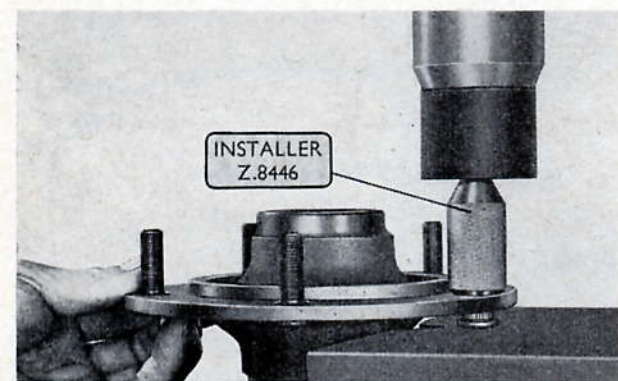

Fig. K.10. Pressing in a new hub bolt
- (c) Engage the splines of the new bolt with the splines in the bolt hole and press home (Fig. K.10).